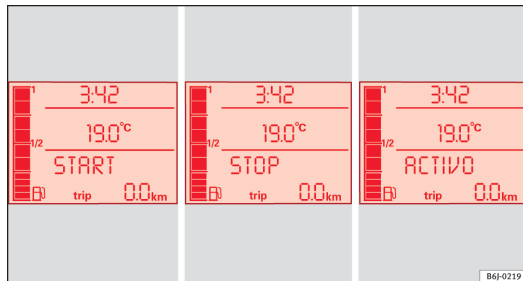

Fig. 110 Display on the instrument panel during Start-Stop function operation.
- The instrument panel screen displays information about the status of the Start-Stop function ⇒ fig. 110. ▶